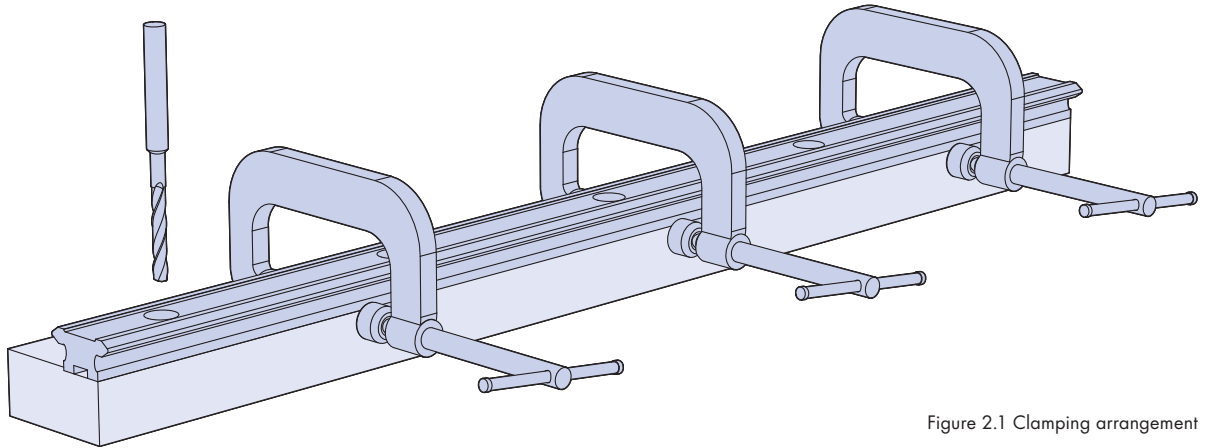

Figure 2.1 Clamping arrangement
2.1 To ensure that the slides are fixed correctly, hold tight against the register/ dowel pins and secure using clamps, as shown in figure 2.1, the track can then be used as a template to spot through into the base. The slide can be removed and the holes drilled to suit, this will avoid possible misalignment from the cumulative effect of hole position tolerances and ensure that the slide is parallel.